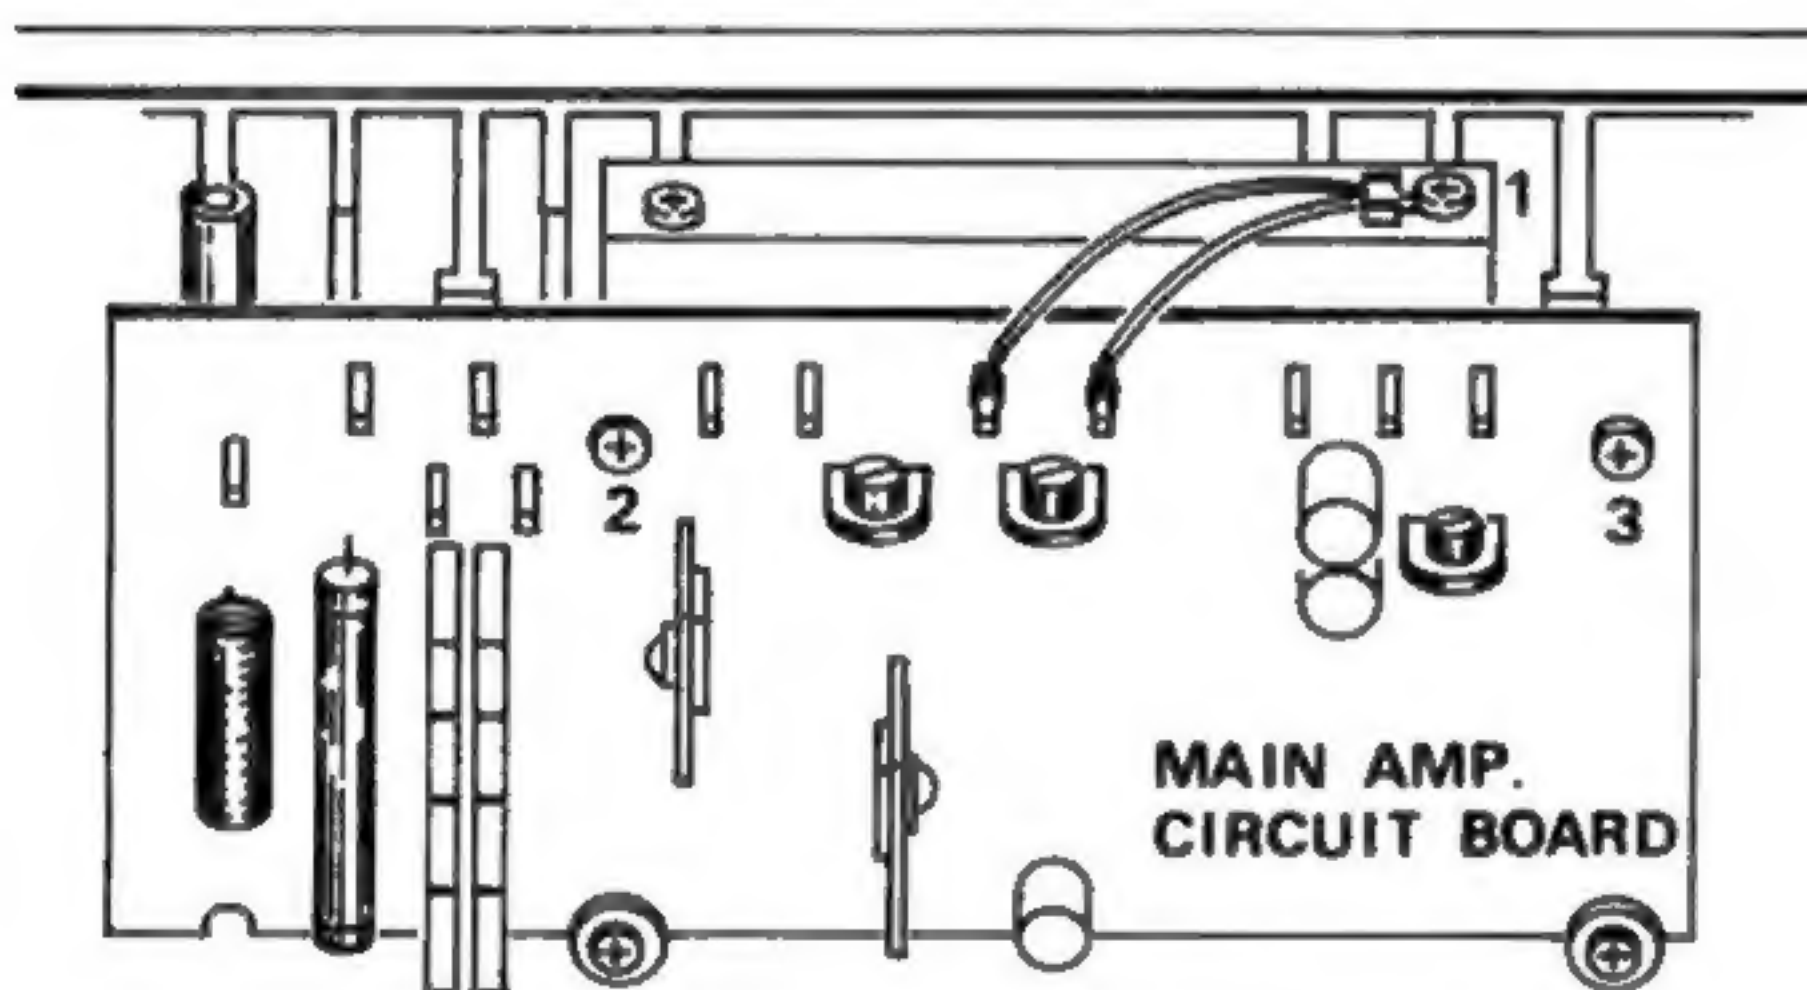

Fig. 1-9 CHASSIS TOP VIEW (MAIN AMP. PORTION)
- a) After completing procedures 1 and 2, detach varistor by unscrewing the varistor mounting screw (1) in Fig. 1-9, and unscrew Main Amp PCB mounting screws (2) and (3) in Fig. 1-9. Remove the PCB by pulling it upwards.